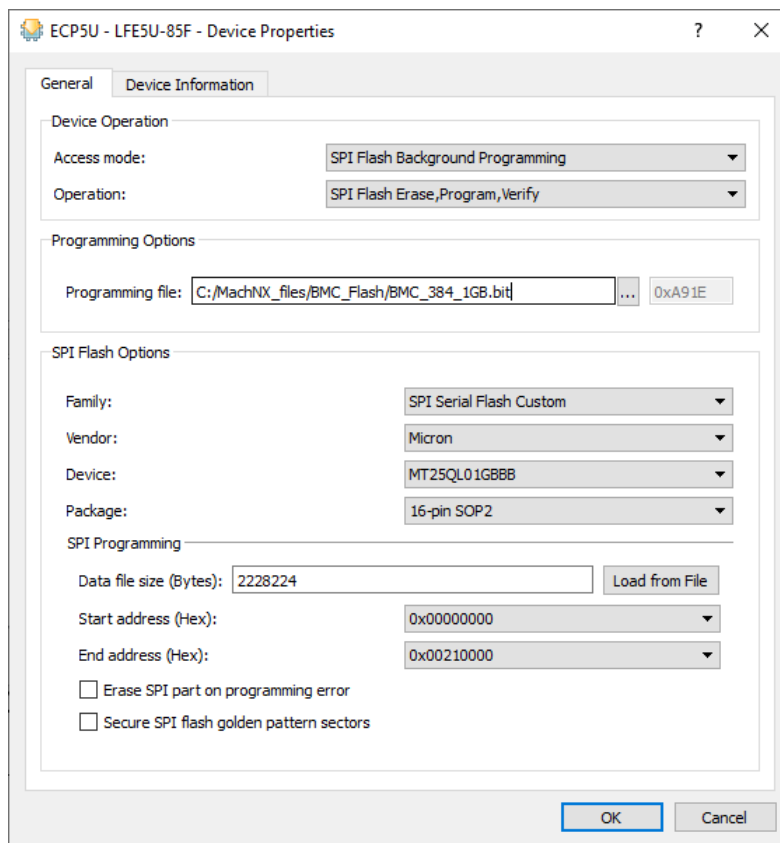

Figure 4.12. Device Properties for BMC
4. Double-click on the **Operation** field to open the **Device Properties** dialog box, as shown in Figure 4.12.